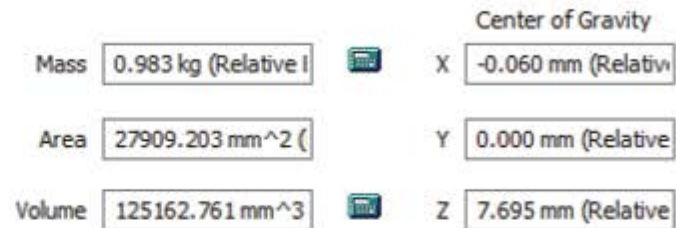

Figure 19–27
5. Where do you find information such as the mass and volume of a part, as shown in Figure 19–27?